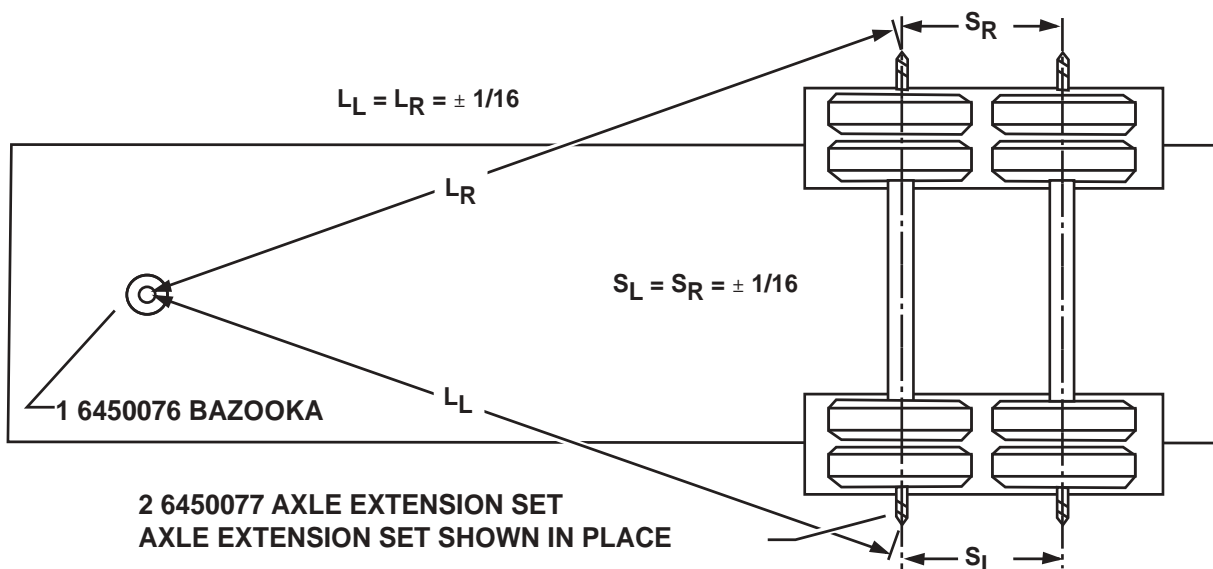

Figure 19. Alignment of Axle
4. Inspect axle alignment to kingpin. Forward axle should be + 1/16" left to right relative to kingpin. Rear axle, if equipped, should be in line with forward axle + 1/16" axle center to axle center. Refer to axle alignment procedure shown in Figure 19.
1. Align the forward axle to center of kingpin (see "A" in Figure 19), then align rear axle to center of forward axle (see "B" in Figure 19). The measurement from left to right side of axle centers should not exceed 1/8" difference.